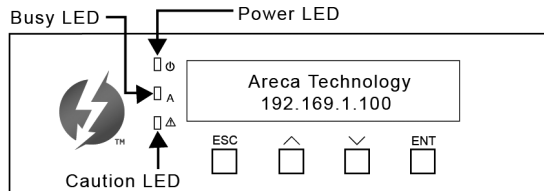

Figure 1-2, LCD Panel LED
There are a variety of status conditions that cause the RAID storage panel monitoring LED to light. The front panel LCD comes with three (3) status-indicating LEDs. The LEDs on the front panel are defined, from top to bottom, Power, Busy, and Caution, as shown in Figure 1-2.